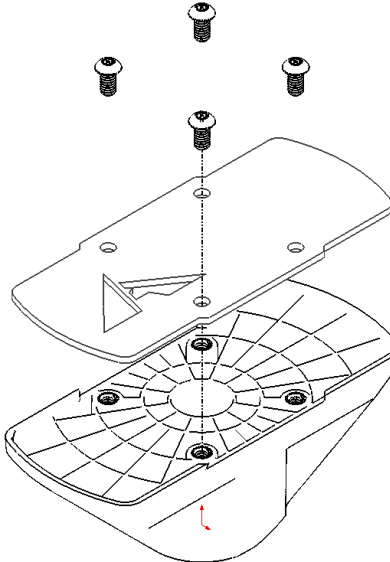

Figure 7: Wheel Wedge, Cover Mounting
6. Once everything is securely fastened, bolt the cover to the wheel wedge using the included special bit [70479], and bolts [70478]. Reference Figure 7.